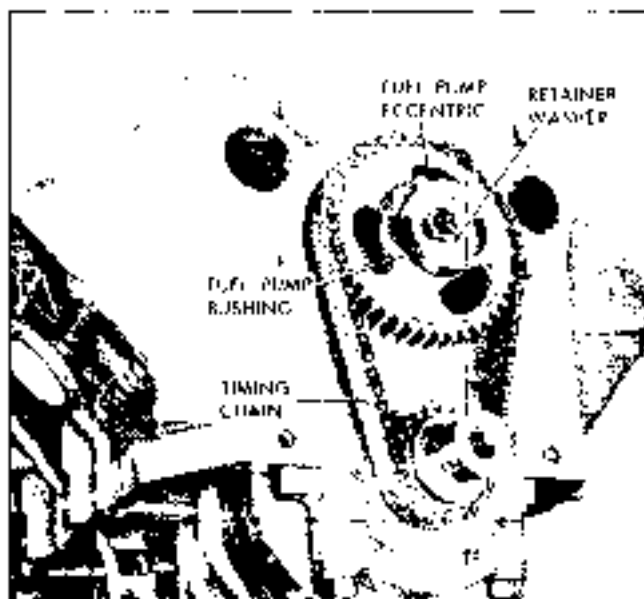

Fig. 6-95 Front of Engine with Timing Chain Cover Removed
14. If new fuel pump eccentric and bushing are to be installed, remove camshaft sprocket retainer bolt and retaining washer and remove the eccentric and bushing. Place fuel pump bushing over eccentric with rolled flange toward camshaft sprocket (Fig. 6-95).